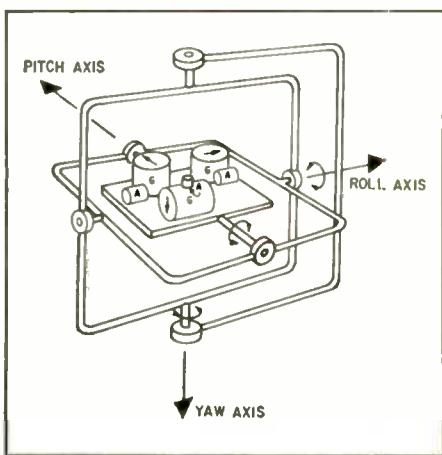

Fig. 1—Heart of inertial-guidance system is gimballed platform with three gyros.
Fig. 1—Differences between conventional dipole antenna (a) and hydronic-radiation antenna (b) lie in the configuration of the brass endplates and spacer. Radiation patterns are also completely different though no one knows why.
The heart of the inertial system consists of the *stable platform*, also known as the *inertial reference unit* (IRU), or the *inertial measuring unit* (IMU). The platform is a three-axis gyro system. It establishes a stable element to which the accelerometers are mounted. Fig. 1 shows how the three gyros (G) and three accelerometers (A) are suspended by the innermost member of a gimballed support framework. Gimbals permit the gyro assembly to tilt freely in any direction. Axes of the gyros and accelerometers coincide to make a kind of artificial horizontal/vertical frame of reference against which spacecraft motion is measured and computed.